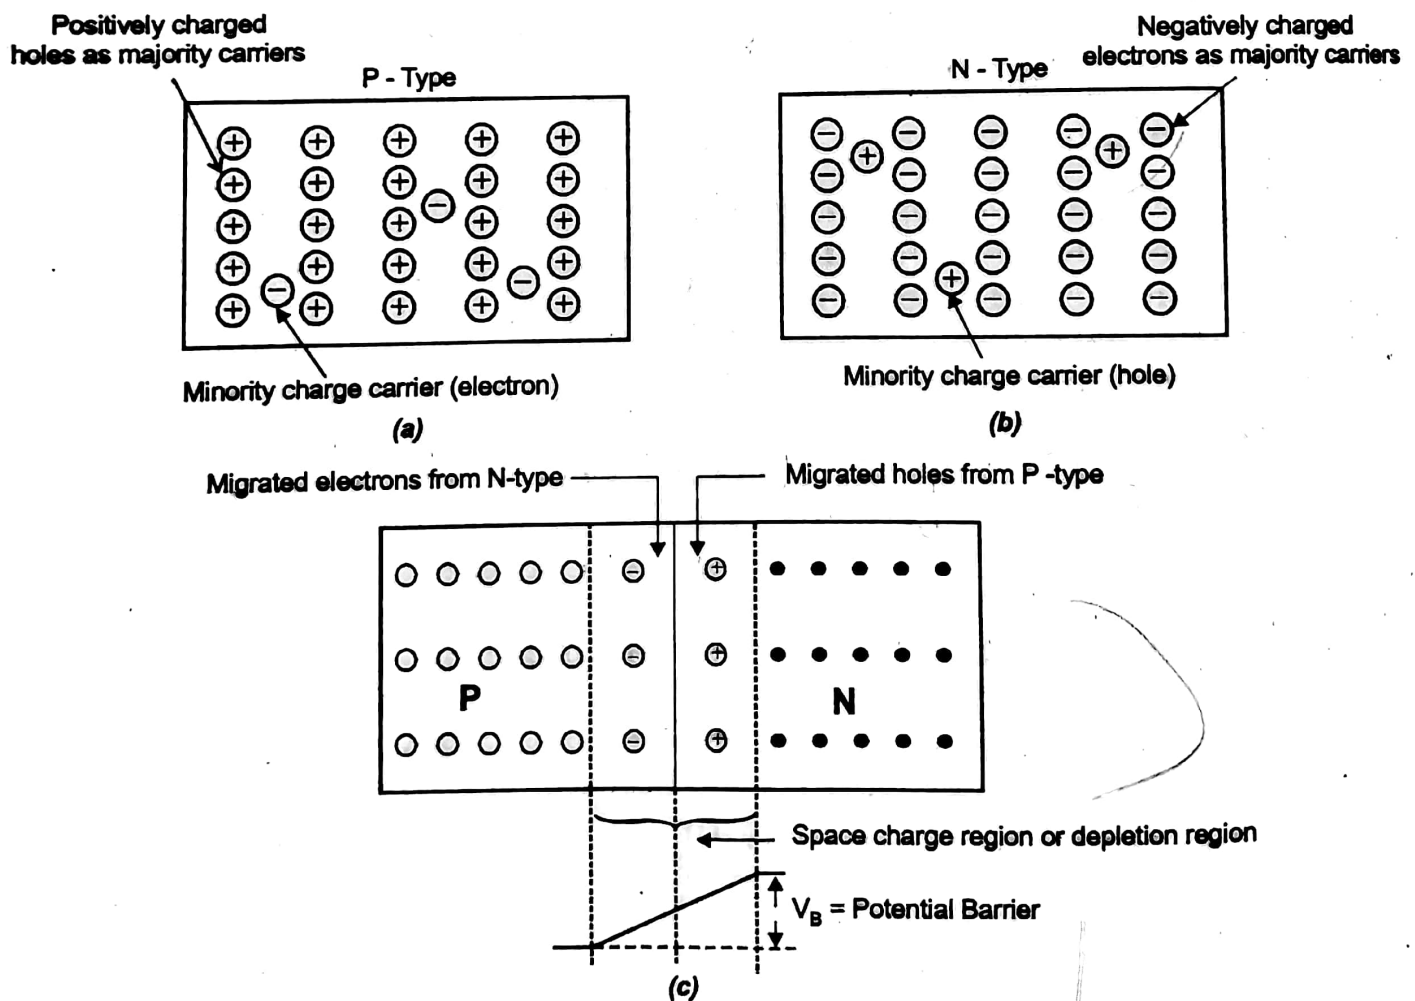

Figure 4.5 Operation of PN junction
- The N type semiconductor has high concentration of free electrons while 'P' type semiconductor has high concentration of holes as shown in figure 4.5 (a). At the junction there is a tendency for the free electrons to move towards the 'P' side and holes to the 'N' side and vice versa. This process is known as Diffusion. The diffusion is the process by which charge carrier move from high concentration area to low concentration area.